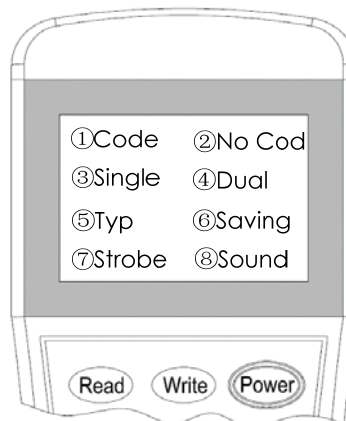

Fig.7 Encoding mode setting
2. Switch-on the programmer, then press button **"3"** to set encoding mode. Select the desired encoding method and then click the button **"Write"** to save the configuration information, as shown in Figure 7.